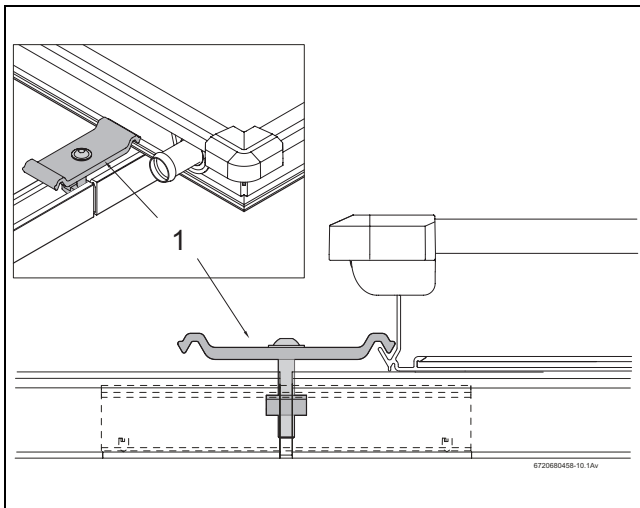

Fig. 44 Fitting the double sided collector tensioner
- Place the double sided collector tensioner, with attached nut, into the aperture of the profile rail and joiner in such a way that the plastic spacer (Fig. 44, [1]) surrounds the profile rail.